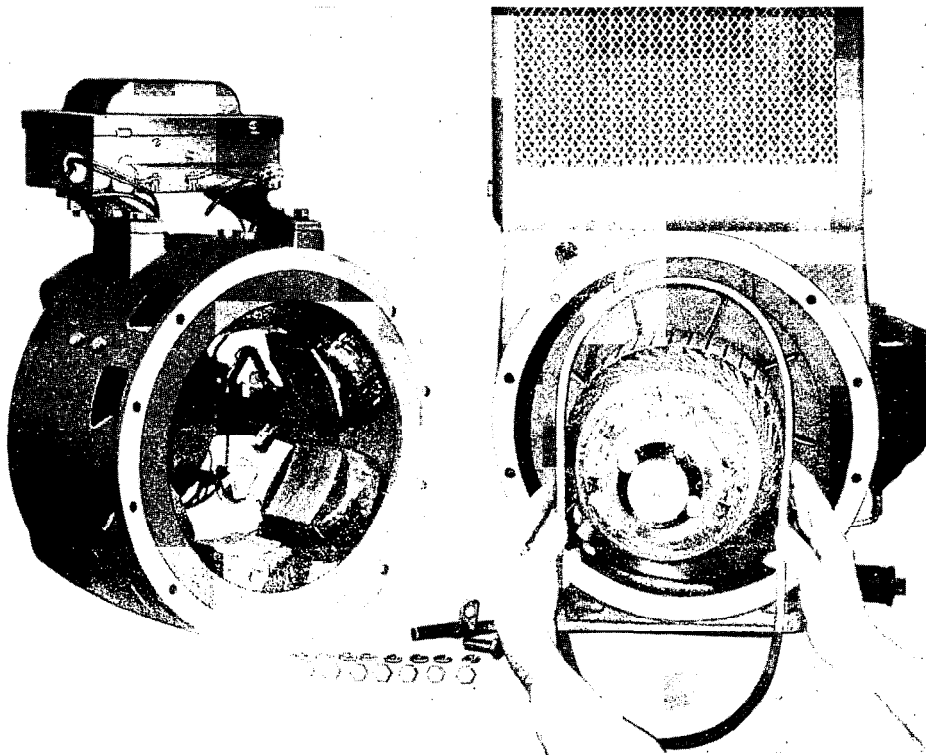

Figure 20
5. Pull off the generator assembly and set it to one side (Fig. 20). If necessary, use a bar to pry the bracket away from the frame.
1. Slip new belt over armature and onto generator flywheel pulley (Fig. 20).